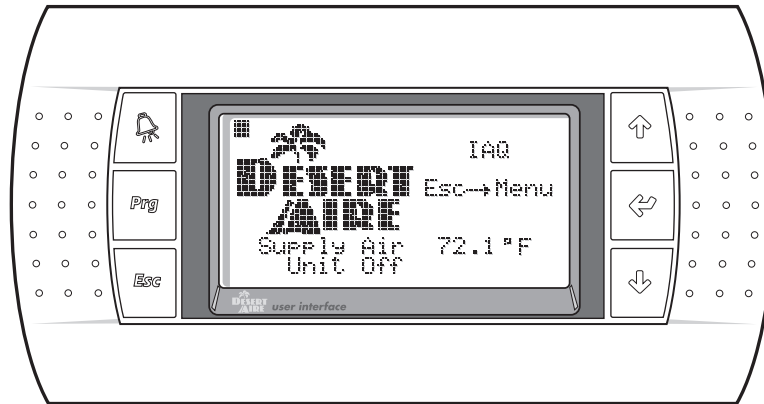

Figure 4a
2.1. Menu Overview and General Instructions (Figures 4a)
The Desert Aire CM3500 Controller is pre-programmed and configured at the factory for use in the application specified. The optional Remote Display Terminal (RDT) will appear as shown in Figure 4a. The Internal Display Terminal (IDT) will appear as shown in Figure 4b. The display terminal allows the operator to monitor and adjust the set points of the Desert Aire IAQ dehumidifier.